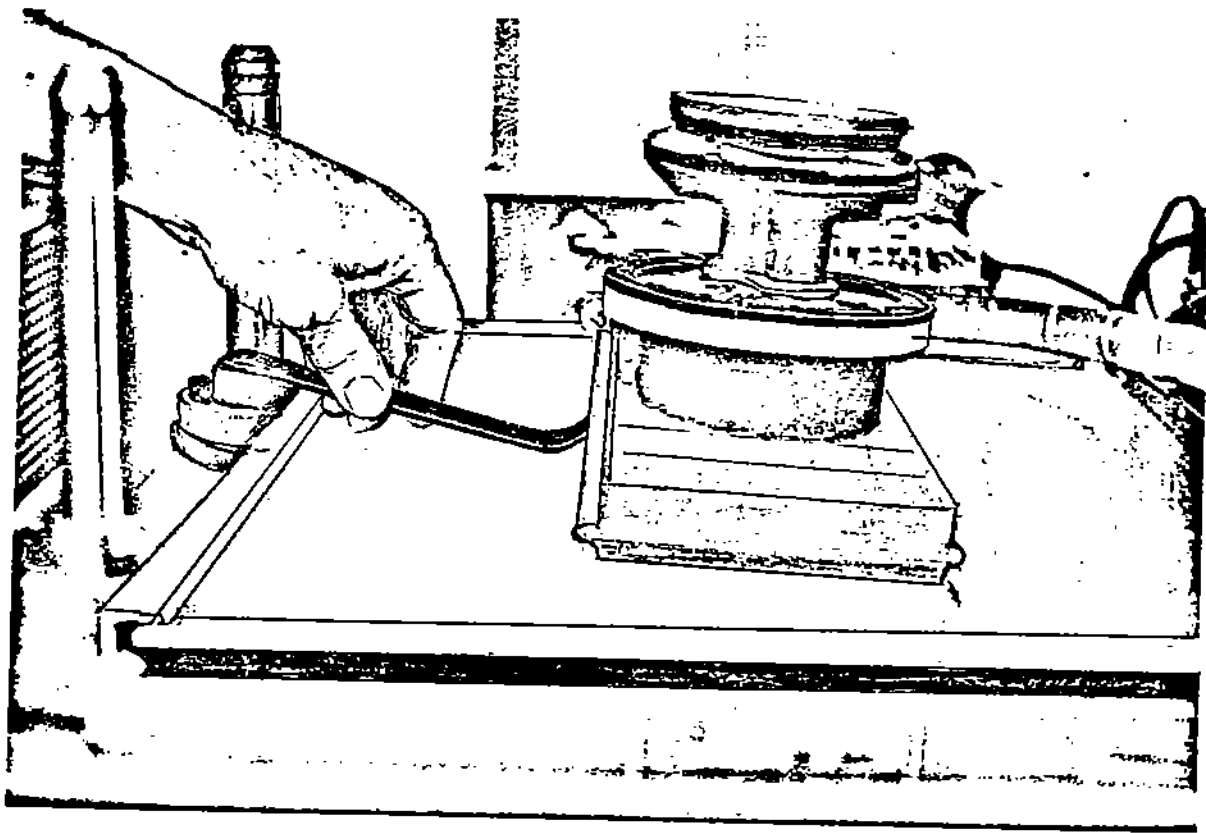

Figure 2-5. Lifting the Positioner
7. Insert motor-lifting lever under center of positioner lip. (Figure 2-5)